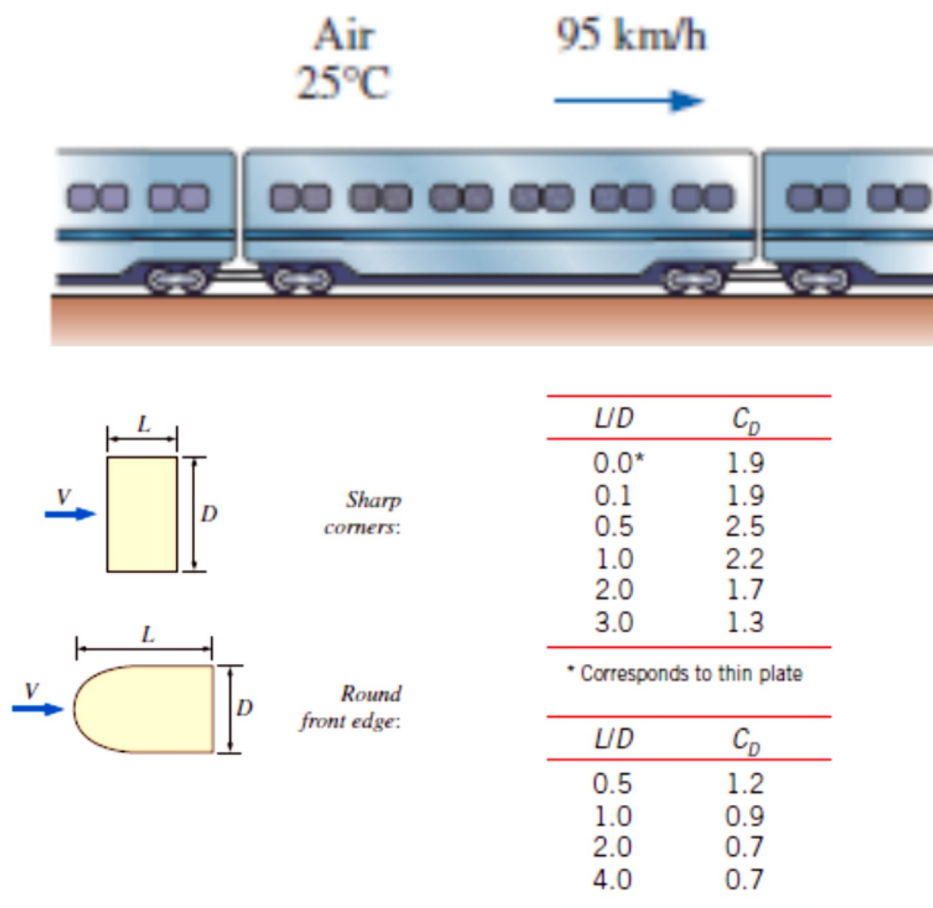

Figure 2 The drag coefficient across bodies with different aspect ratios
- C) The top surface of the passenger car of a train moving at a velocity of 95 km/h is 2 m wide and 6 m long. If the outdoor air is at 1 atm and 25°C, determine the drag force acting on the top surface of the passenger cars. Use Figure 2 for necessary data.